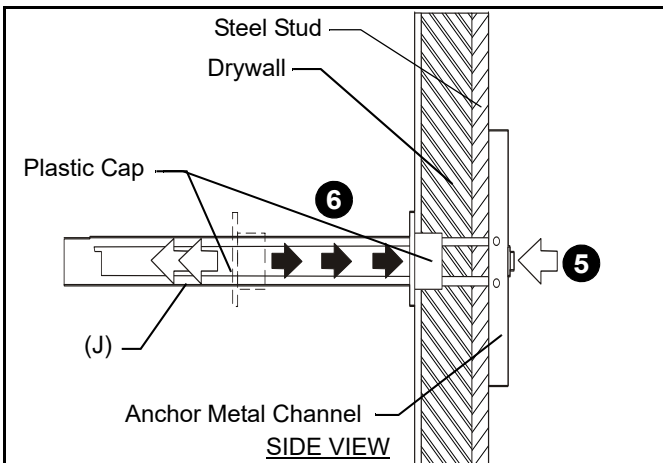

Figure 15
5. Holding plastic straps on anchor (J), pull anchor away from wall until channel rests flush behind wall making sure anchor channel is positioned vertically on stud. (See Figure 15)
6. Slide plastic cap on anchor (J) towards wall until flange of cap is flush with wall. (See Figure 15)